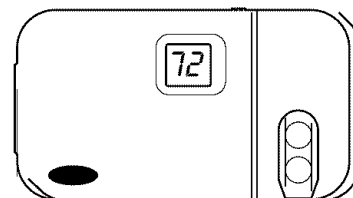

Fig. 3—Carrier Non-Programmable T-stat
- Your multipurpose indoor thermostat is the control center for your heat pump system. You should familiarize yourself with its proper operation. Attempting to control the system by other means—for instance, switching the electrical supply power ON and OFF—may cause damage to the unit. (See Fig. 3.)